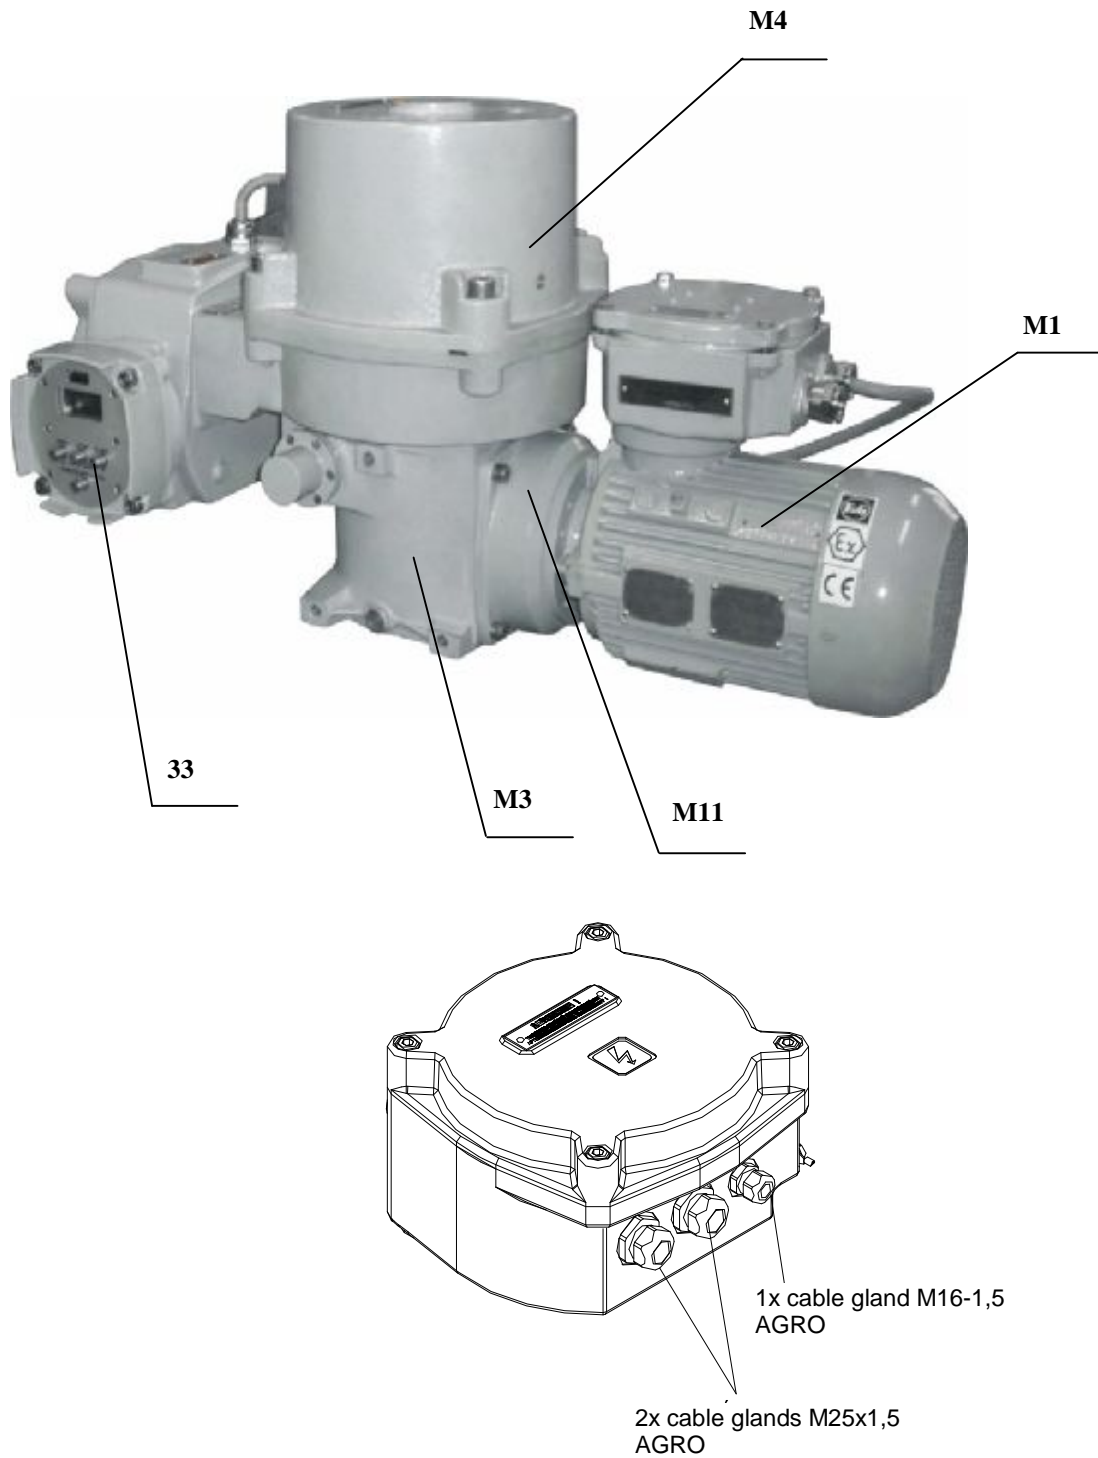

Fig.1
Electric multi-turn actuators **MO-Ex** consist of these modules (Fig.1):
### Module M 4 – control box (Fig. 1)
- position unit (11)
- signalling unit with gear unit (12)
- torque unit (9)
- transmitter unit (33) (according to EA specification)
- heating resistor (16) with thermal switch
- reversing contactors (13) (according to EA specification)
- electrical connections by means of terminals situated within terminal box (35) (Fig.1), and cable glands (34) (Fig.1)